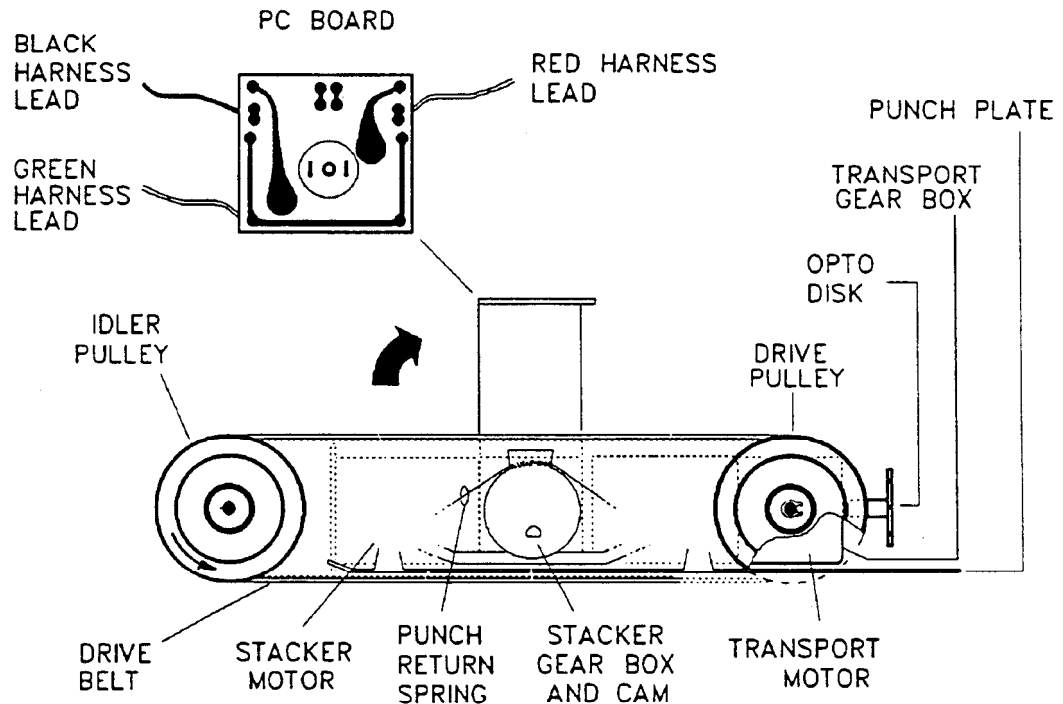

Figure 4. Motor Chassis and PC Board
6. Tilt the bottom end of the stacker motor upward to expose the PC board and solder connections (Figure 4).
7. Note the locations of the red, green, and black harness leads soldered to the PC board (Figure 4). Also note there is another, short green wire from the stacker motor to the PC board. Do not remove this wire.
9. Remove the retaining clips and drive pulleys from the transport motor shafts (Figure 4) and install them on the new transport motor. Pull the optical interrupt disk off the old motor and press it onto the shaft of the new transport motor.
2. Gently lift the punch return springs up and to the outside of the stacker motor cams. See Figure 4 for the location of the punch return springs and cams.